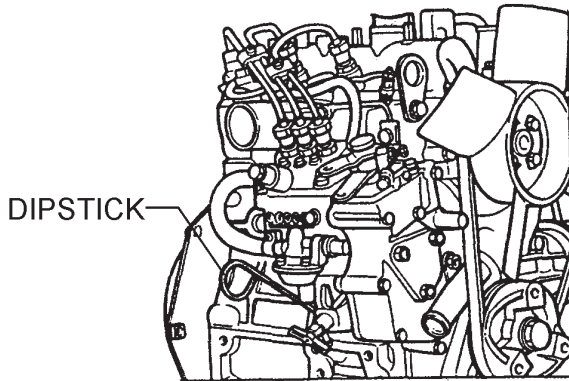

Figure 9. Dipstick Removal
2. Remove the engine oil dipstick from its holder (Figure 9) and wipe clean.